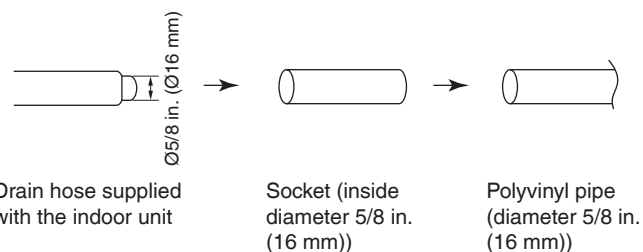

Fig. 26
- 4) When connecting a rigid polyvinyl chloride pipe (diameter 5/8 in. (16 mm)) directly to the drain hose attached to the indoor unit as with embedded piping work, use any commercially available drain socket (inside diameter 5/8 in. (16 mm)) as a joint. (Refer to Fig. 26)